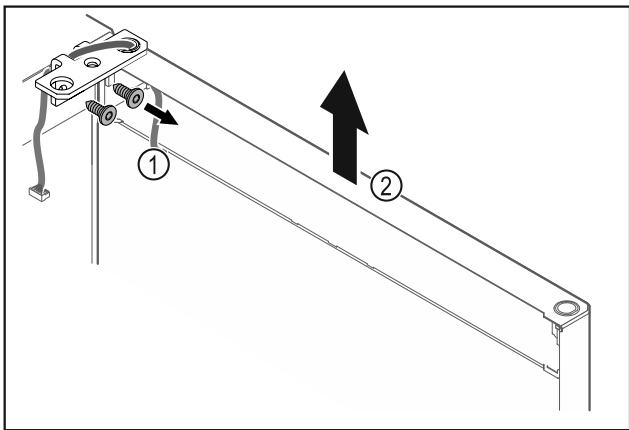

Fig. 16
- ▶ Unscrew the hinge Fig. 16 (1).
- ▶ Lift the door with the hinge straight up by Fig. 16 (2) roughly 200 mm and take it off.